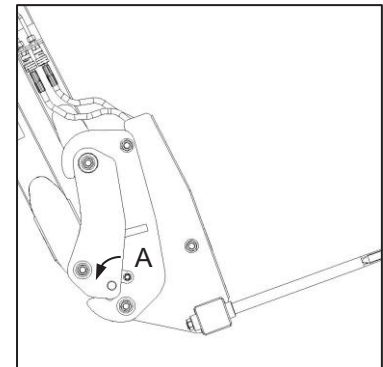

Fig. 7
- ✔ Apply the safety latches (Fig. 7-A).
- ✔ Skuif die veiligheidsknippe weer in posisie (Fig. 7-A).